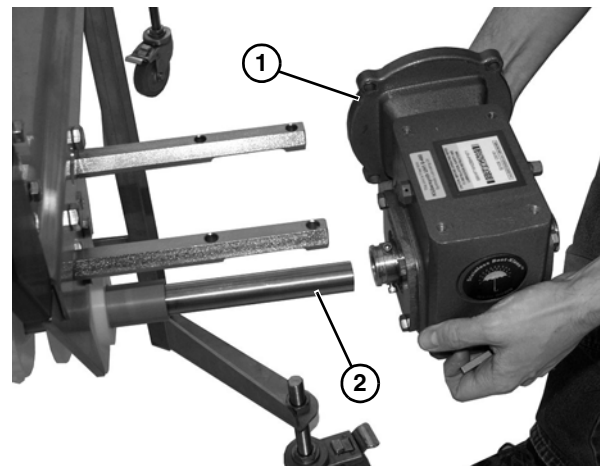

Figure 27
6. Slide the gearmotor assembly (**Figure 27, item 1**) off the drive spindle (**Figure 27, item 2**).